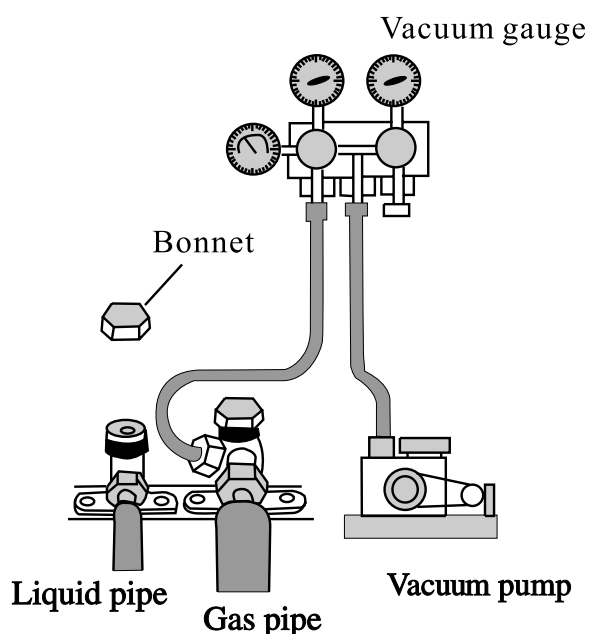

Fig.9
2. Connect the charging hose in the middle to the vacuum pump, then Low-pressure (Lo) end should be connected to charging end of gas valve. (Shown in Fig. 9)